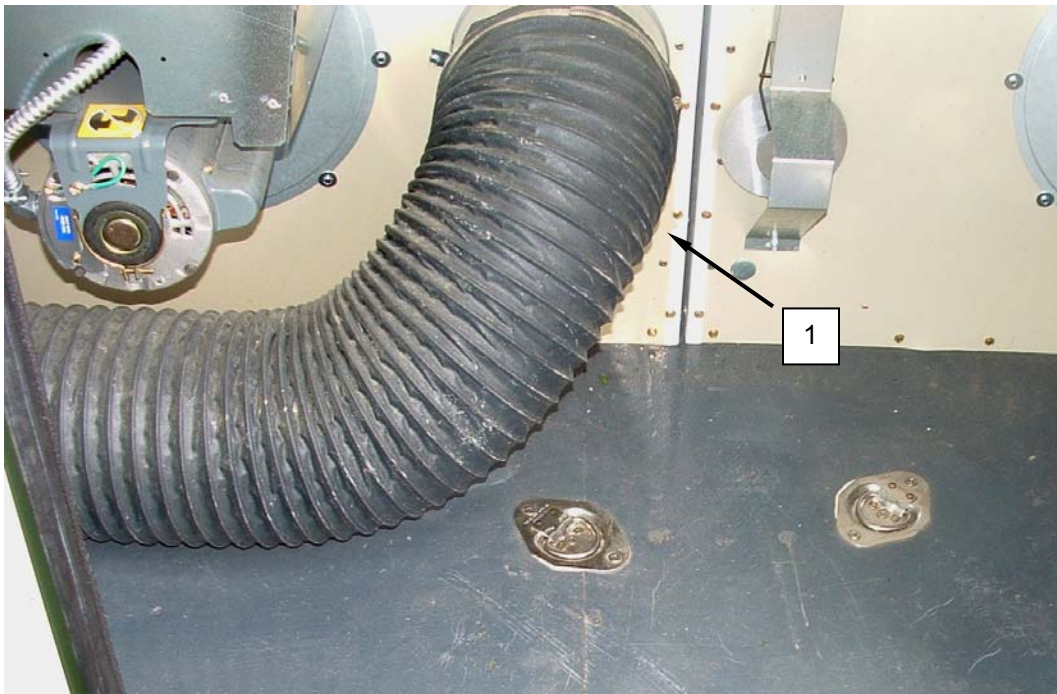

Figure 2. Clean the Dryer Exhaust Ducts.
2. Remove clamps retaining ducts (**Figure 2, Item 1**), and remove ducts.
3. Flush ducts (**Figure 2, Item 1**) out with hot soapy water.
4. Install ducts (**Figure 2, Item 1**) and retain with clamps.